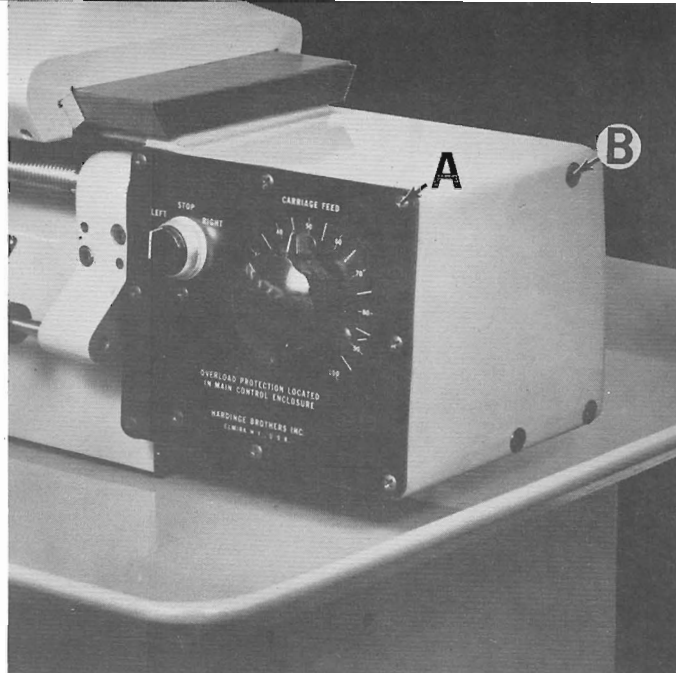

Figure 88 — Power Feed Control Panel
1. Remove eight screws "A", Figure 88, and set power feed panel out of control box.
3. Remove three bolts "B", Figure 88.
Access to the power feed control box is gained by removing eight screws "A", Figure 88.